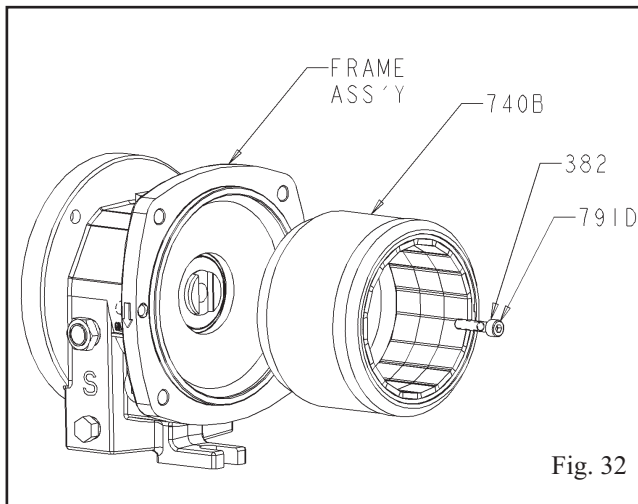

Fig. 32
8. Remove hex screw (791D) and lockwasher (382) from the drive shaft (Fig. 32).
9. Remove drive magnet assembly (740B) (Fig. 32).